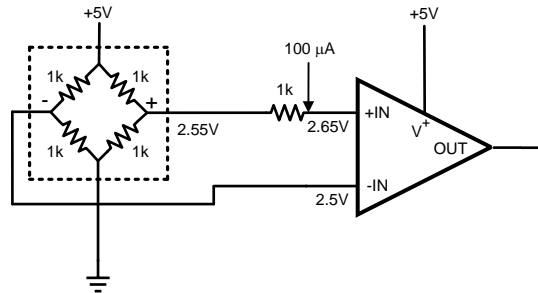
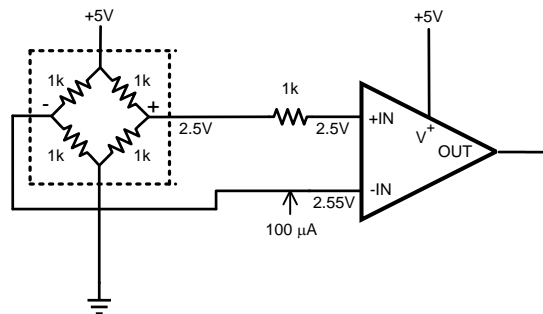

Figure 59. Degraded Input Line, Step 1
Figure 60. Degraded Input Line, Step 2
Figure 59 shows an example of a degraded connection between the bridge and the +IN pin of the LMP8358. This fault is shown by the 1 k Ω resistor placed between the bridge and the LMP8358. To detect this fault use the 1/50 feature by setting MUX[1:0] to 10b to test the +IN pin, POL to 0b, and G[2:0] to 010b for a gain of 50. This will give an overall gain of 1. Set CUR[2:0] = 101b to inject a 100 μ A current and read the output voltage (5082x). Next set MUX[1:0] to 11b and PIN to 1b to test the -IN pin as shown in Figure 60 and read the output (58C2x). If the voltages of these two measurements are different a degraded input fault exists.
* The values shown for a degraded input line will vary depending on the resistance in the line. This table uses the value in Figure 59 and Figure 60, 1kΩ.